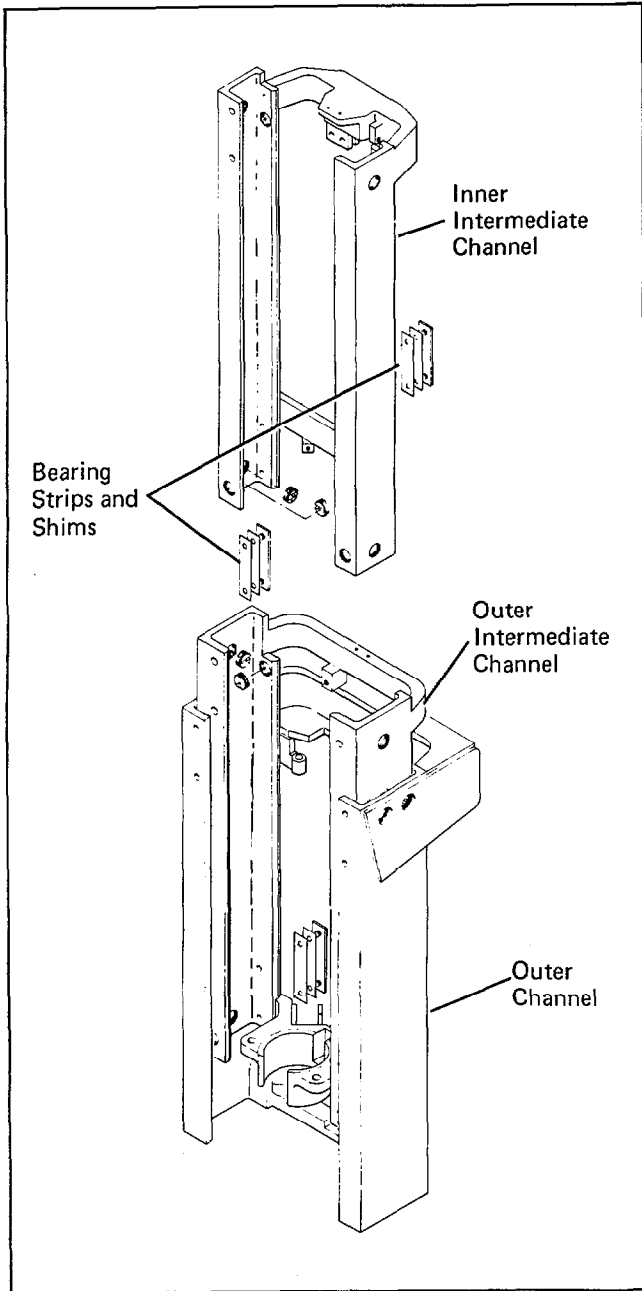

Figure 4-24 Channel Assembly
9. Install the inner intermediate channel in the outer intermediate channel as follows (see figure 4-24):